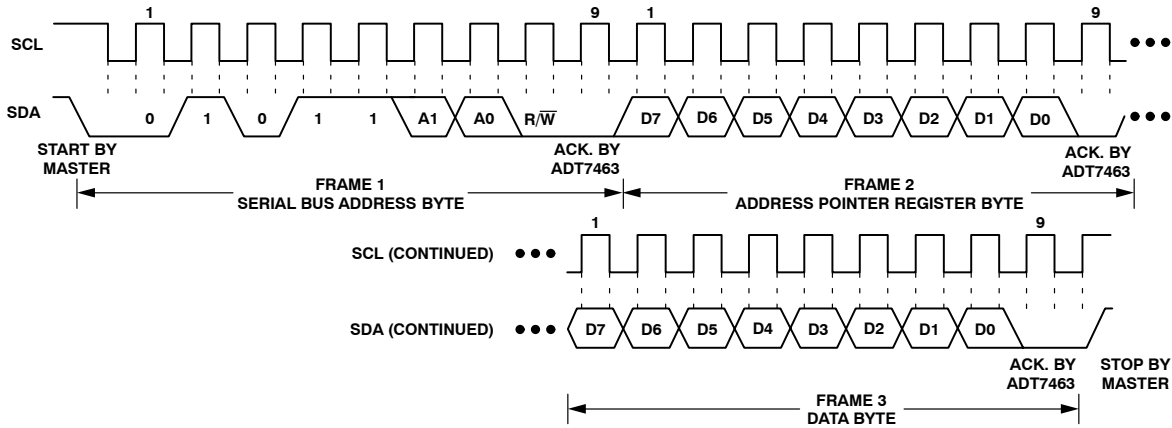

Figure 17. Writing a Register Address to the Address Pointer Register, then Writing Data to the Selected Register
This is illustrated in Figure 17. The device address is sent over the bus followed by R/\bar{W} being set to 0. This is followed by two data bytes. The first data byte is the address of the internal data register to be written to, which is stored in the address pointer register. The second data byte is the data to be written to the internal data register.
2. In Figures 17 to 19, the serial bus address is shown as the default value 01011 (A1)(A0), where A1 and A0 are set by the address select mode function previously defined.